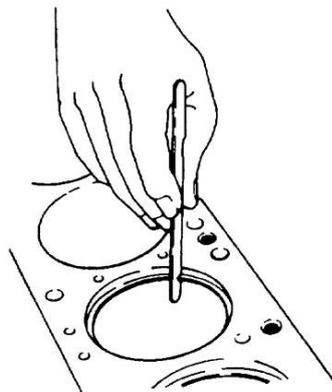

Figure 46 Checking the Piston Ring Gap
- s. Check the piston ring gap by installing the piston rings in the cylinders and measuring the gap with feeler gauges (Figure 46). Refer to Table 7 for the correct ring gap limits.